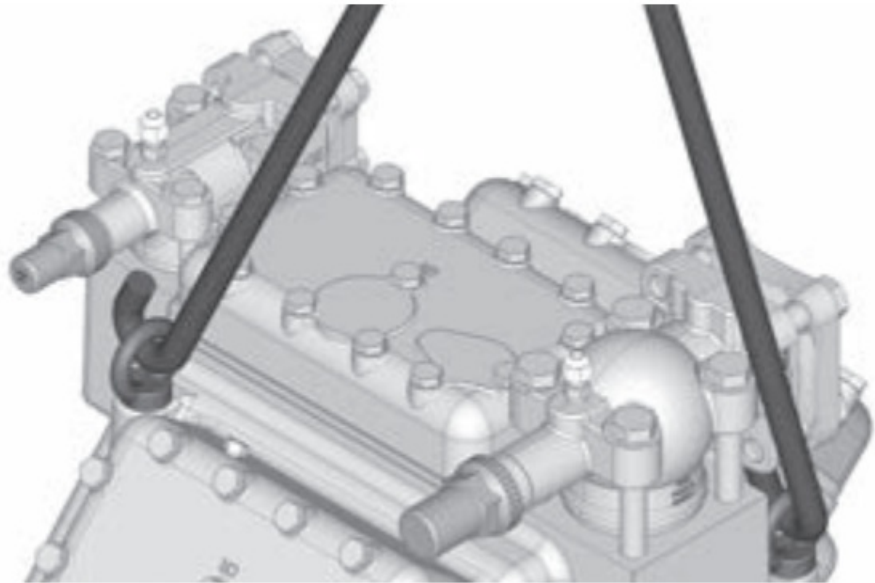

Fig. 11
- Transport and suspension unit on the eyebolt (Fig. 11).